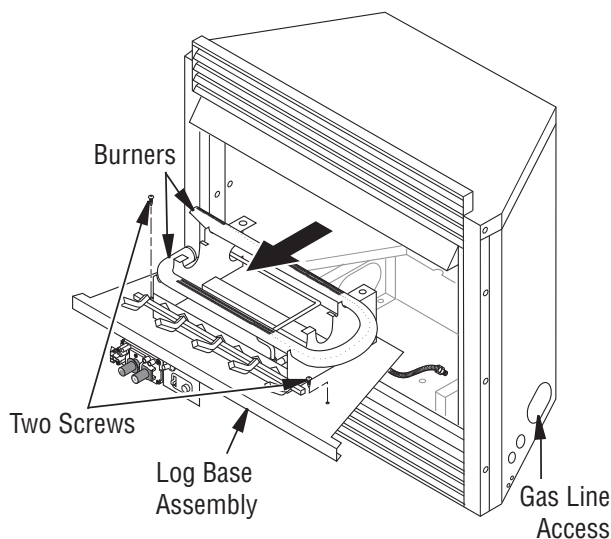

Figure 15 - Removing Log Base Assembly From Fireplace Insert
2. Remove screws that attach log base assembly to fireplace insert (see **Figure 15**). Carefully lift up log base assembly and remove from fireplace insert (see **Figure 15**).
3. Route gas supply line through access opening of fireplace insert (see **Figure 15**).